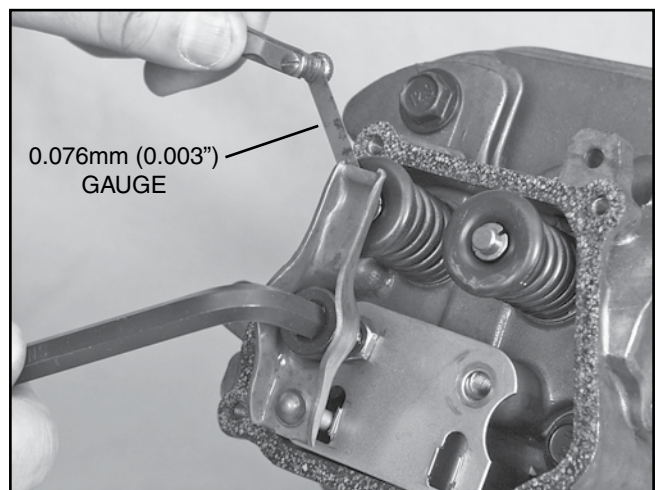

Figure 6-16. Adjusting Valve Clearance
1. Loosen the rocker arm jam nut. Use an allen wrench to turn the pivot ball stud while checking the clearance between rocker arm and valve stem with a feeler gauge (see Figure 6-16). Refer to "SPECIFICATIONS" in the back of this manual for proper clearance.